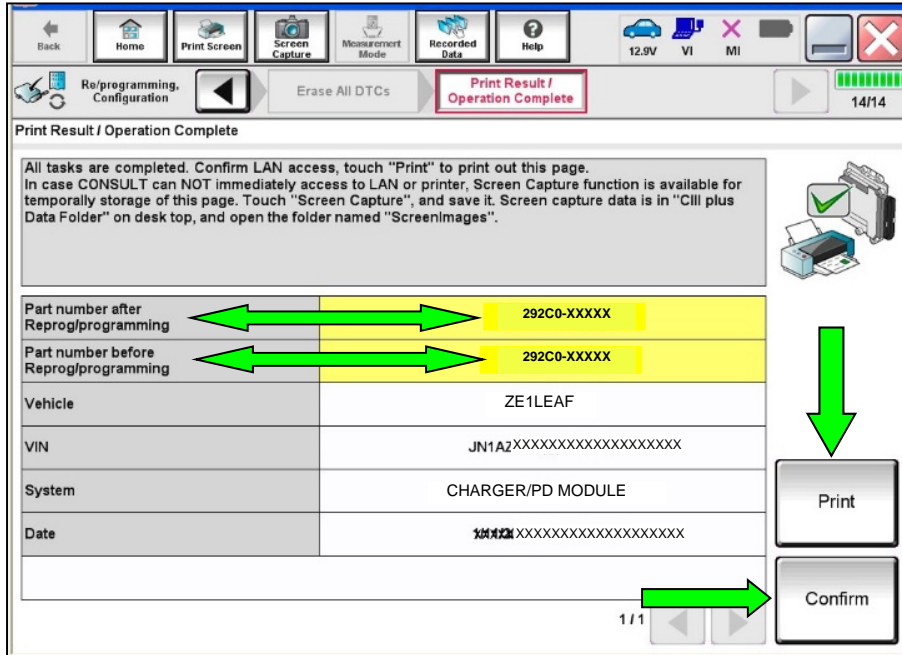

Figure 22
30. Print a copy of this screen (Figure 22) and attach it to the repair order.